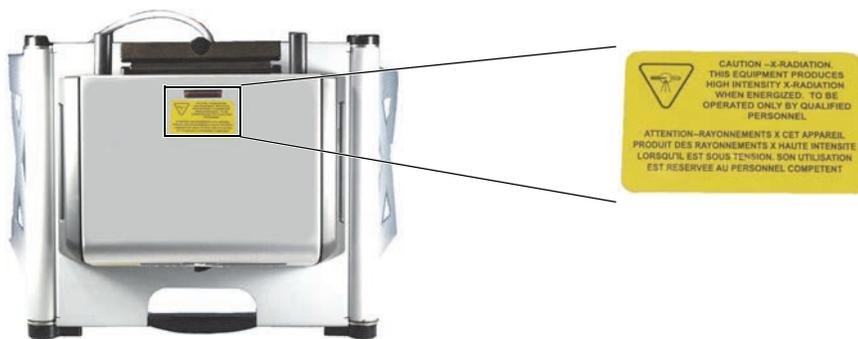
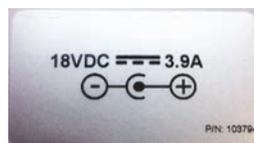

Figure G-1 Caution radiation label on top of workstation
Figure G-2 DELTA Portable Workstation voltage label
- Read all warning signs and labels (see Figure G-1 on page 153 and Figure G-2 on page 153).
The X-ray indicator is located on the top of the workstation (see Figure G-1 on page 153). This indicator consists of a four-element amber LED array and has two key functions: